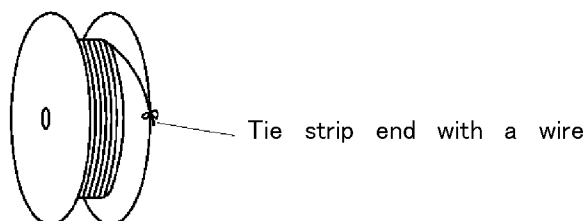

Fig.5
- (3) Avoid storing the contact reel in a moist or dusty place. Stock the reel in a comparatively dry and clean place (5~35°C, 45~85%RH) away from direct sunlight.
- (4) When removing the contact reel from the machine, fasten the end of contact strip onto the edge of the reel with use of proper string or wire. (See Fig5)